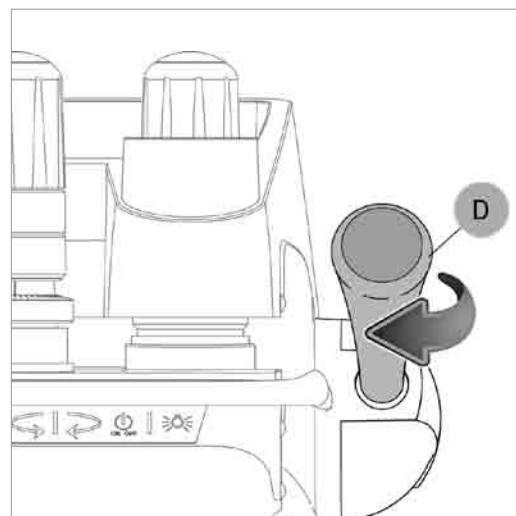

Fig. 80
- 1) Lower the vertical carriage with the lever (D (Fig. 80).
- 3) When the pins are aligned, raise them slightly with the lever (D) so that they are not in contact with the key surface.
- 4) Turn the lever (D) clockwise to lock the height of the vertical carriage.
- 5) Move the clamp carriage with the lever (C) and take the pins into contact with several points on the left-hand jaw (also on the side of Stop 0). If the calibration board shows a green light the left-hand jaws are aligned.